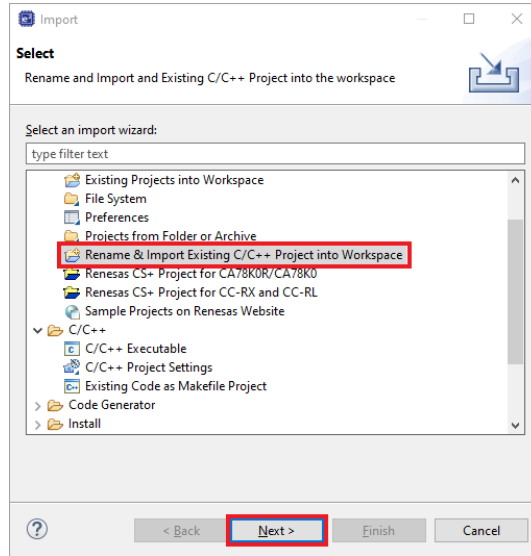

Figure 21. Selection of the Import Wizard Option
11. From the Import Wizard window select **Rename & Import Existing C/C++ Project into Workspace** and then click on the **Next >** button (Figure 21).